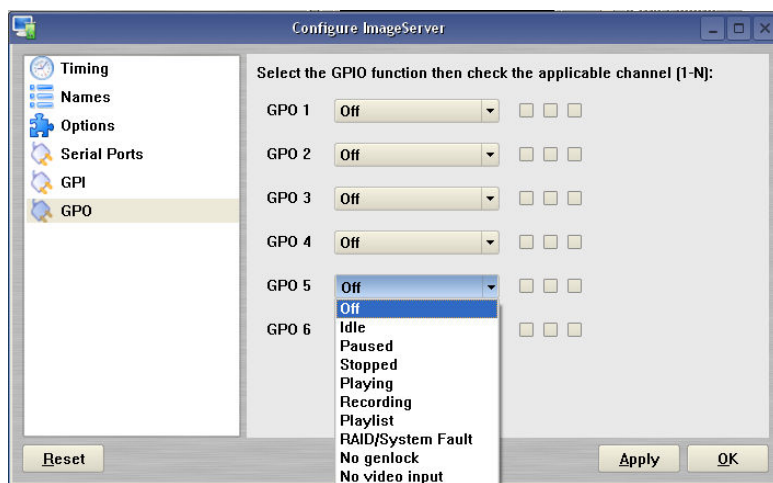

Figure 25 - GPO Configuration Screen
- A. Select **EDIT > CONFIGURE > GPO**. The screen of Figure 25 is displayed. GPO 1 through 6 are the 6 triggerable outputs. The checkboxes to the right of each selection represent channel 1, 2 and 3. GPO 5 is shown with the trigger option pulldown expanded.